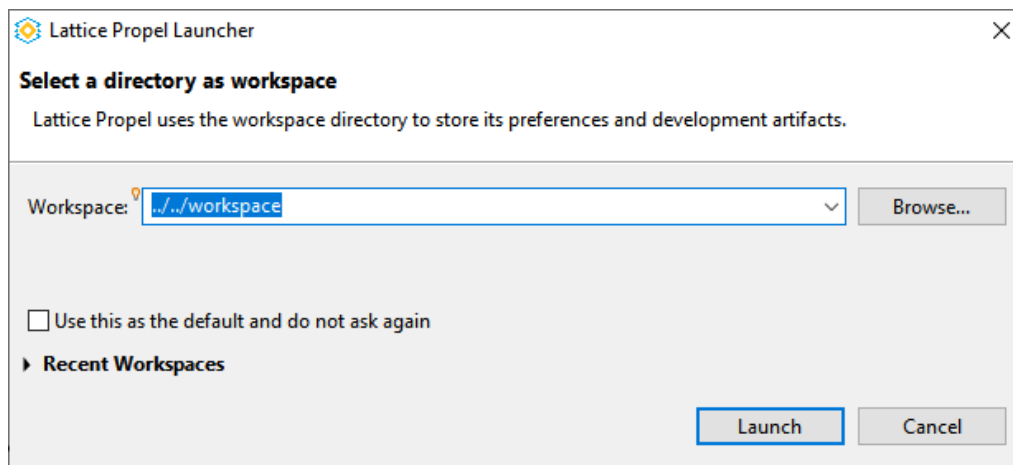

Figure 2.118. Lattice Propel Launcher Wizard
1. Click the **Run Propel** icon  from Propel Builder GUI Toolbar. Lattice Propel Launcher (Figure 2.118) opens.